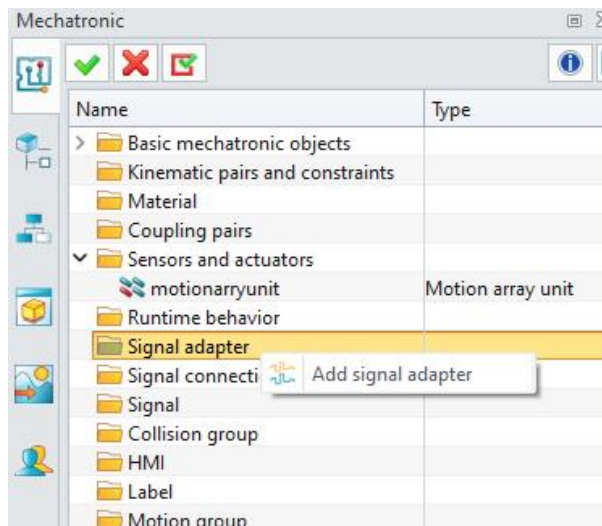

Figure 7-14: Add Signal Adapter
- Right-click within the "Signal Adapter" panel and choose "Add Signal Adapter". (Figure 7-14)